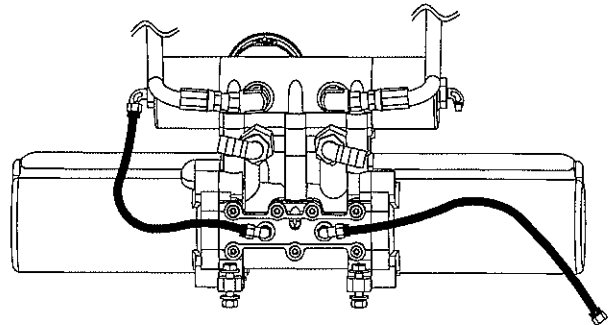

Figure 4.1.3 Illustrates the hose removal set-up
6. Completely unscrew the fitting and loosen the hose as shown in Figure 4.1.3.